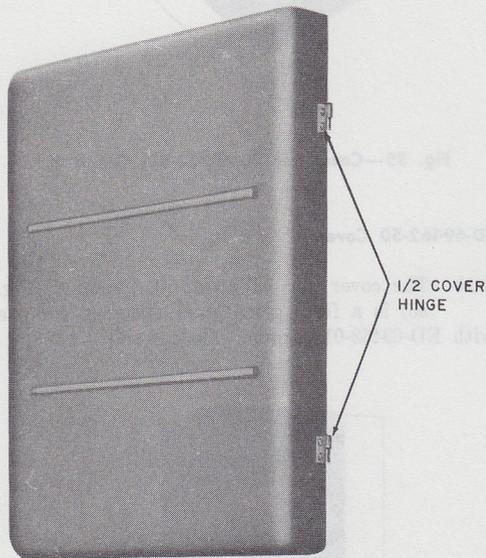

Fig. 38—Cover per ED-69463-50, Group 9
8.06 The ED-69463-50, Group 9 (Fig. 38) cover is a formed plastic cover hinged on the right side and held closed by magnetic catches. The hinges are the lift-away type to simplify installation and removal for maintenance. The keepers for the magnetic catches are mounted on the left side of the gate. The cover becomes part of the gate and the gate can be opened without disturbing the cover. Two Group 9 covers are required for one Group 8 relay rack. Half of the hinges mount on the relay rack gate and the other halves are riveted to the Group cover.